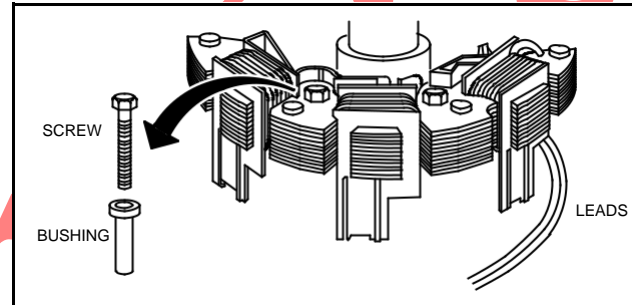

Fig. 744 – ASSEMBLING STATOR
4. Install new stator assembly with stator mounting screws and bushings. Be sure leads are properly positioned as shown in Fig. 744.